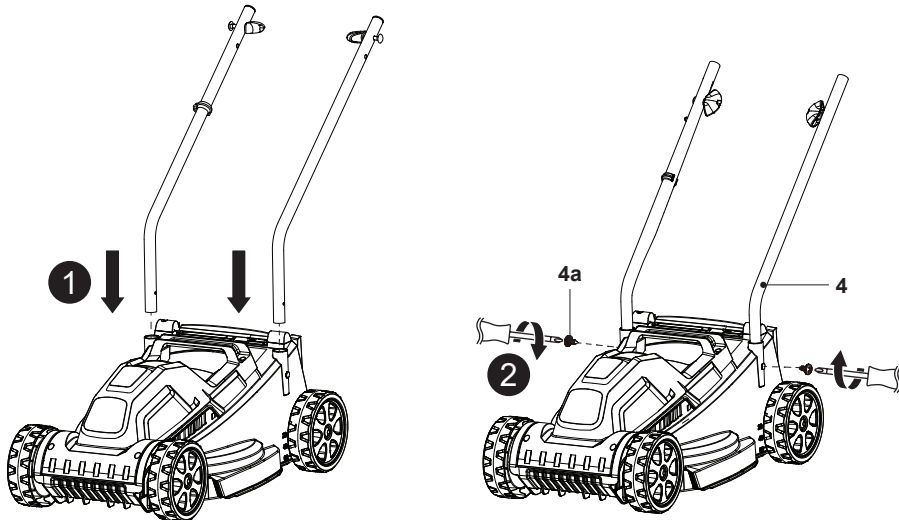

Fig. 1
1. Insert the lower handle bars (4) into the slots on both sides of the lawnmower housing (Fig. 1).
2. Use the 2 screws (4a) provided to lock each handle into position in the deck (Fig. 1).